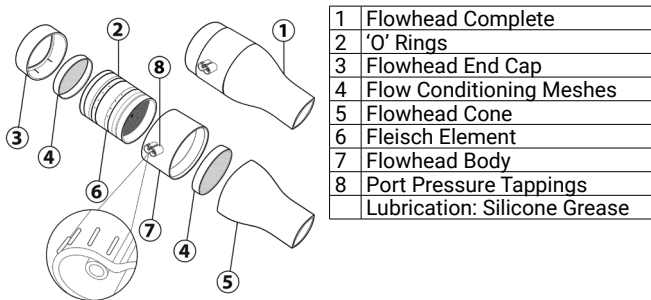

Figure 3: Flowhead Assembly
1. Remove flowhead cone and flowhead end cap from the flowhead (Figure 3). Examine flow conditioning mesh filters for damage or contamination. If they are damaged or blocked, discard and replace with new parts.